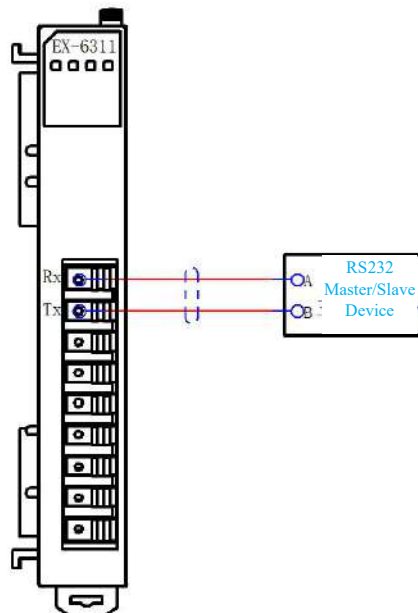

Figure 4-20 Wiring diagram of the EX-6311 module
- Figure 4-20 shows the wiring diagram for the EX-6311 module.